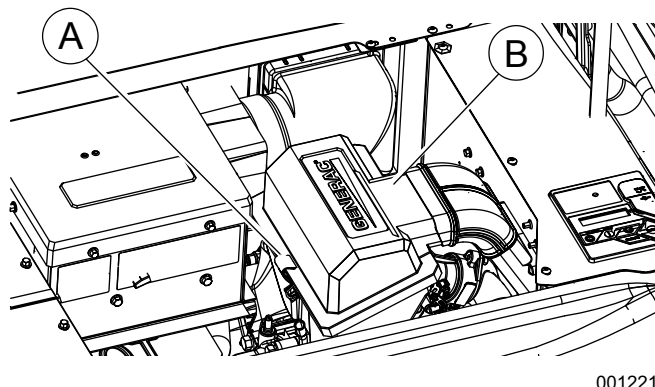

Figure 4-3. Removing the Air Cleaner Cover
2. See Figure 4-3. Remove the cover clip (A) and air cleaner cover (B).